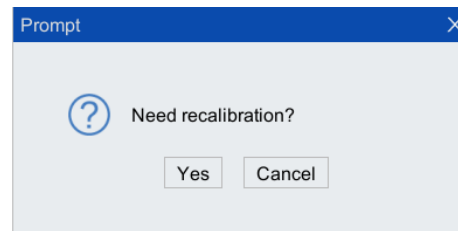

Figure 4-15 Prompt interface diagram
- Step 4. Click <Yes> in the prompt dialog box that pops up, as shown in Figure 4-15. After the calibration is successful, the calibration success will be displayed in the alarm information prompt column of the main interface.